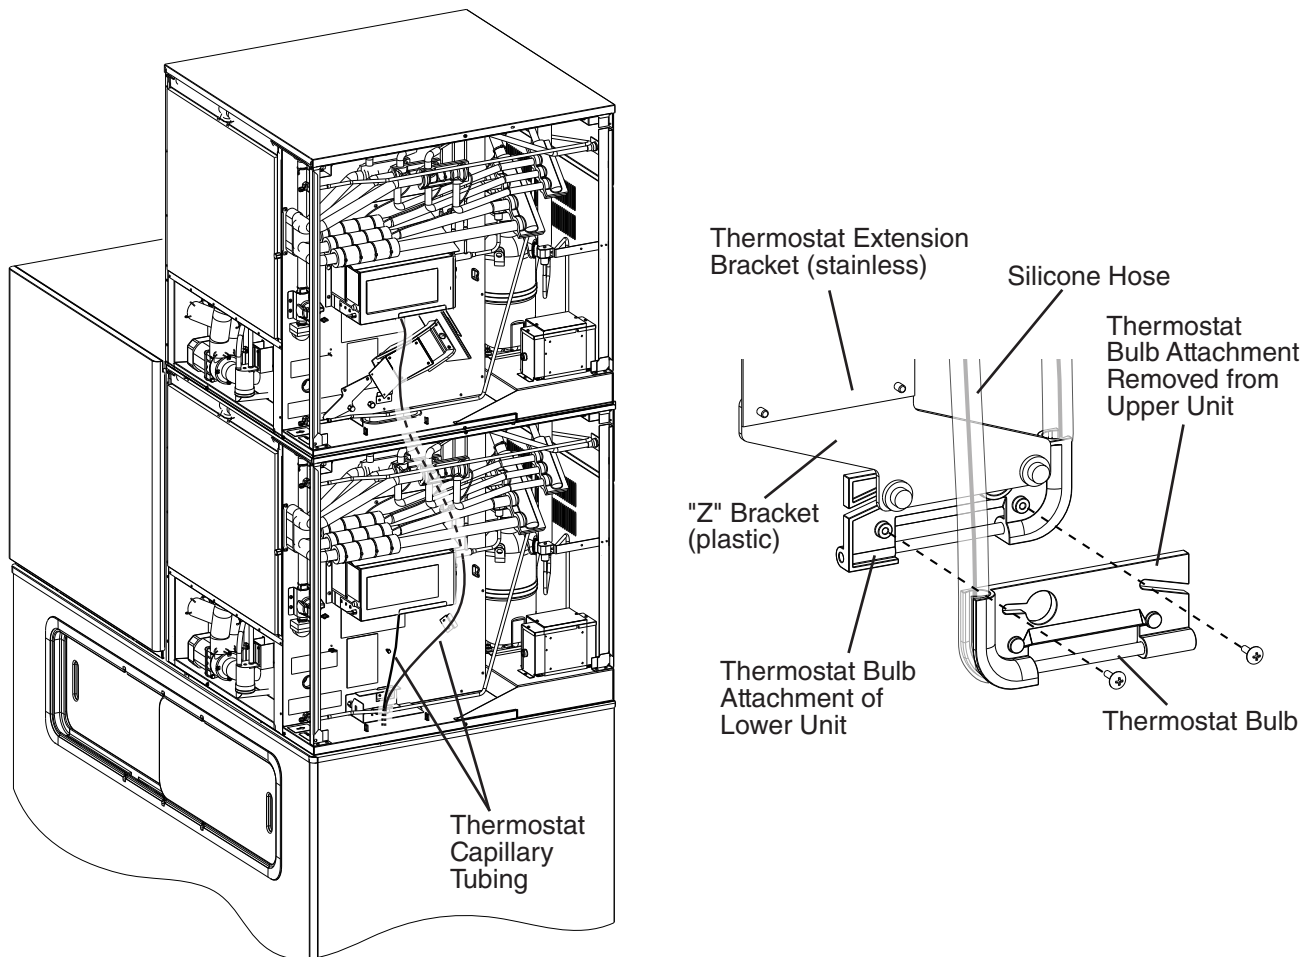

Fig. 6
- a. Remove the thermostat bulb attachment (plastic) of the upper unit from the thermostat extension bracket (stainless). See Fig. 6.